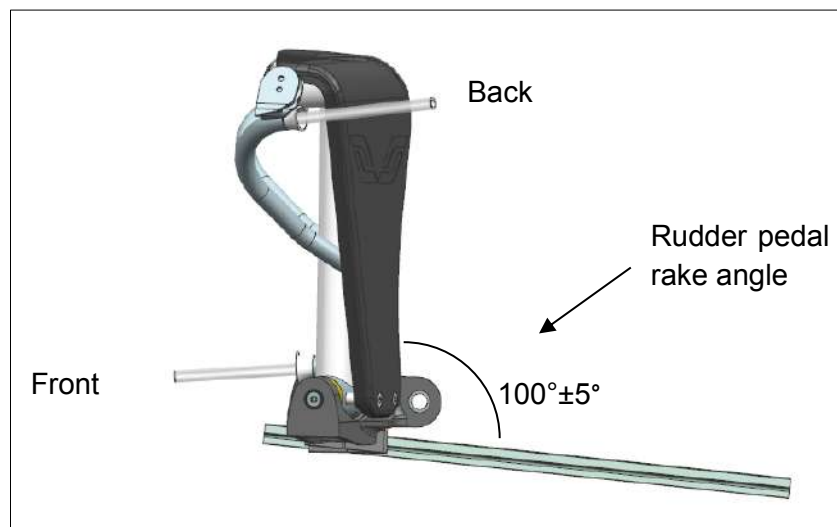

Figure 27-11: Pedal rake angle
8. Ensure the new cable end is cut clean, without any loose strands. (Using a soldering iron with flux-cored solder, solder the tip of rudder control cable to secure any loose strands. Once soldered, sand off any excess, and then sand the tip into a conical shape, to allow the cable to easily slide into the S-tube). Feed the end of the new rudder cable through the S-tubes from front to back as depicted in Figure 27-11.
13. Working on each cable in turn, slide the cable through the ferrules and around the thimbles and tighten until both rudder pedals are approximately centred and at the correct rake angle as depicted in Figure 27-11.